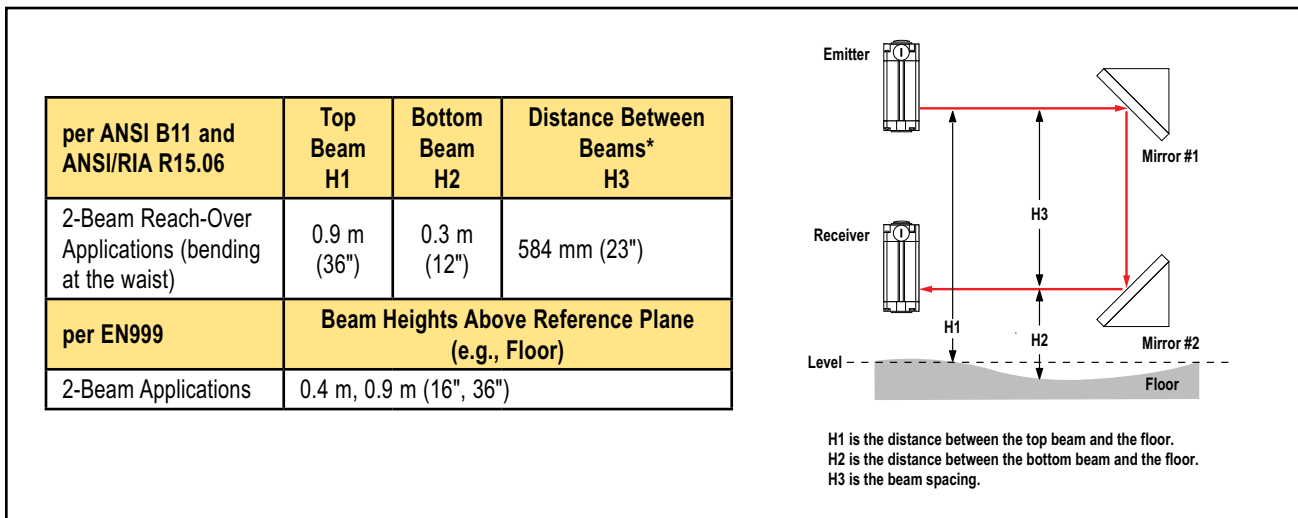

Figure 3-13. Verify required height between the top and bottom beams and the floor, throughout the length of the beam path, per applicable standards.
If the floor has a dip, as for a drain, or is raised up within the path of the beams, corrective measures must be taken to ensure that the requirements of ANSI/RIA R15.06, ANSI B11 or EN999 are met (see Figure 3-13). It is important that the distances between the top and bottom beams and the floor meet the requirements of the applicable standards, throughout the length of the beam path.
2. Mount the emitters and the receivers, using the supplied EZ-SCREEN mounting brackets, so that the beam closest to the floor is at the proper height, typically 12" or 16" (see Figure 3-13) from the floor. Refer to the appropriate standards for specifics on the correct beam configuration and mounting of EZ-SCREEN Point systems. Do not fully tighten the screws until the sensors are aligned.
4. Position the emitter, receiver and mirrors so that the beam path meets the requirements of the applicable standards. See Mounting the Sensors and Figure 3-13 on page 29.